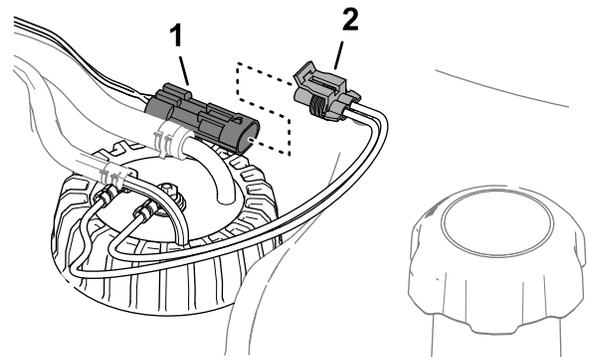

Figure 93
6. Plug the connector of the fuel-sender harness into the connector of the machine wire harness (Figure 93).